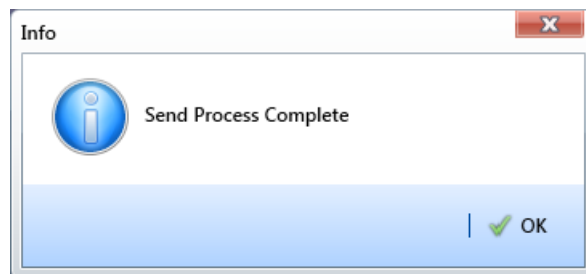

Figure 12-4. Send Process Complete
- 13 When a message displays confirming the send process is complete, click  **OK** to close the message (Figure 12-4).